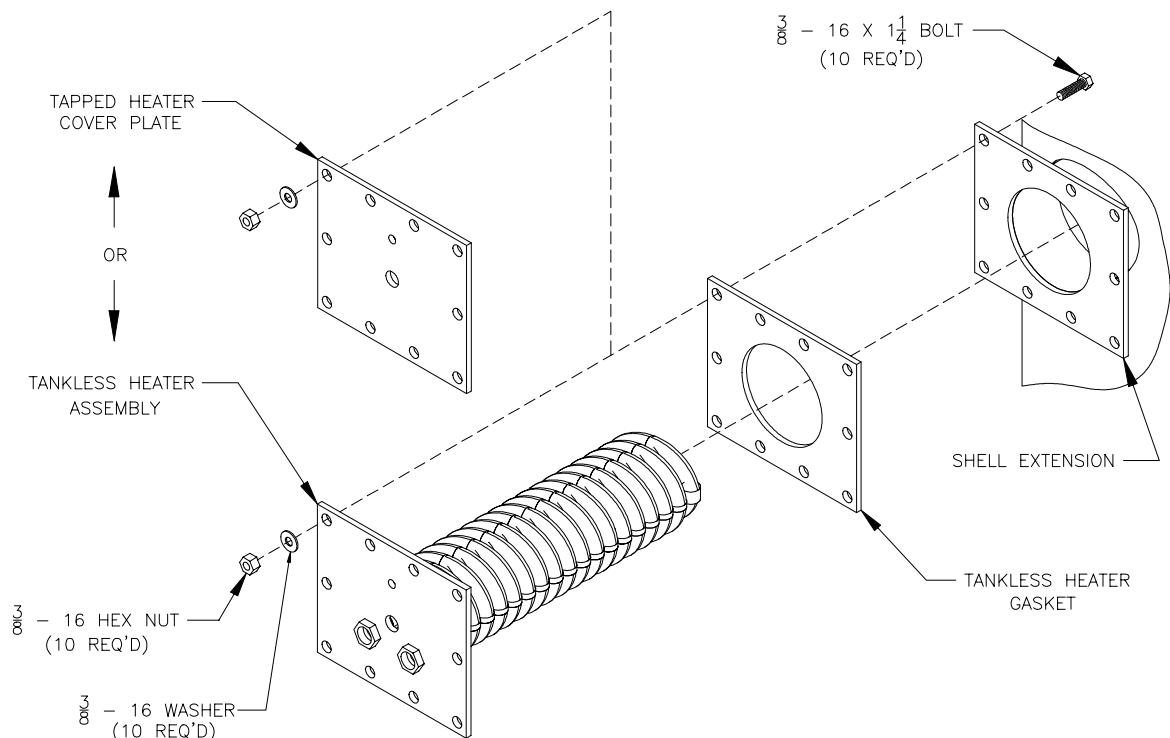

Figure 4: Coil Plate Attachment
1. Before jacket can be secured to boiler assembly tankless heater coil or blank plate must be attached. Using rubber gasket and bolts provided secure heater coil or blank plate to boiler extension by inserting the bolts from the backside of the extension. Refer to Figure 4.